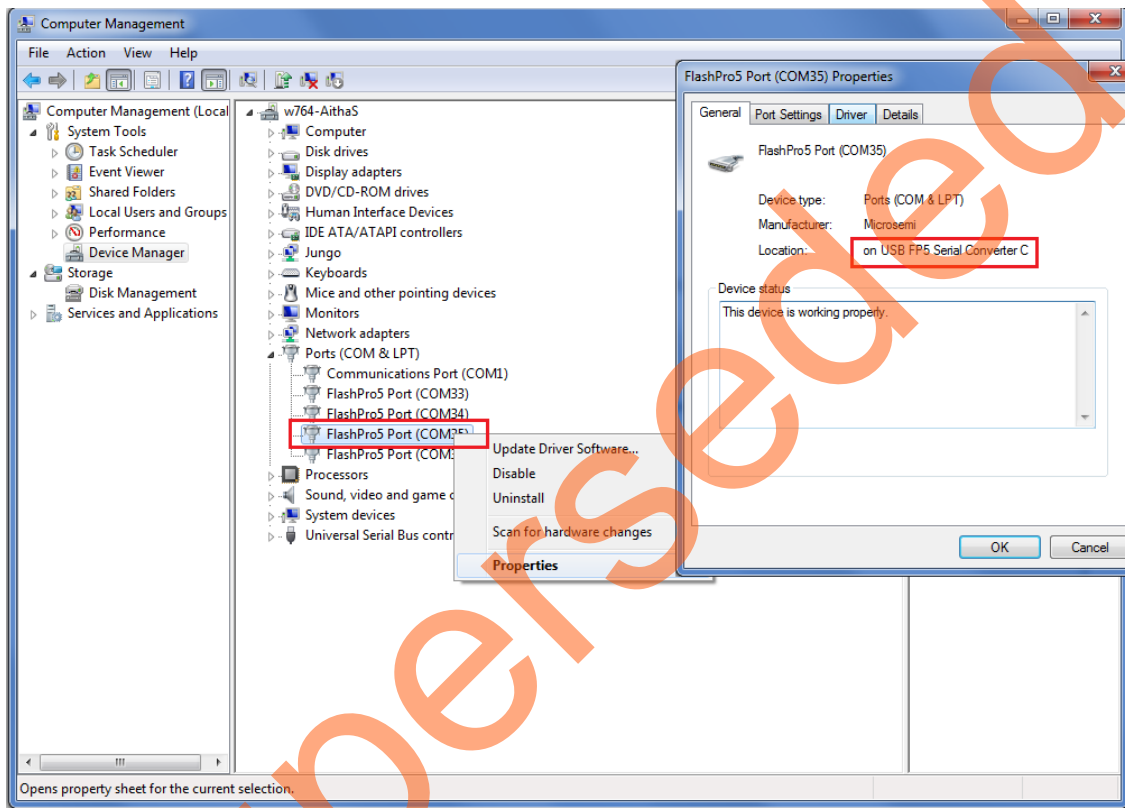

Figure 8 • Device Manager Window
2. From the detected four COM ports, select the one which location on its Properties window must be as **on USB FP5 Serial Converter C**. Make a note of the COM port number for serial port configuration and ensure that the COM port Location is specified as **on USB FP5 Serial Converter C**, as shown in Figure 8.